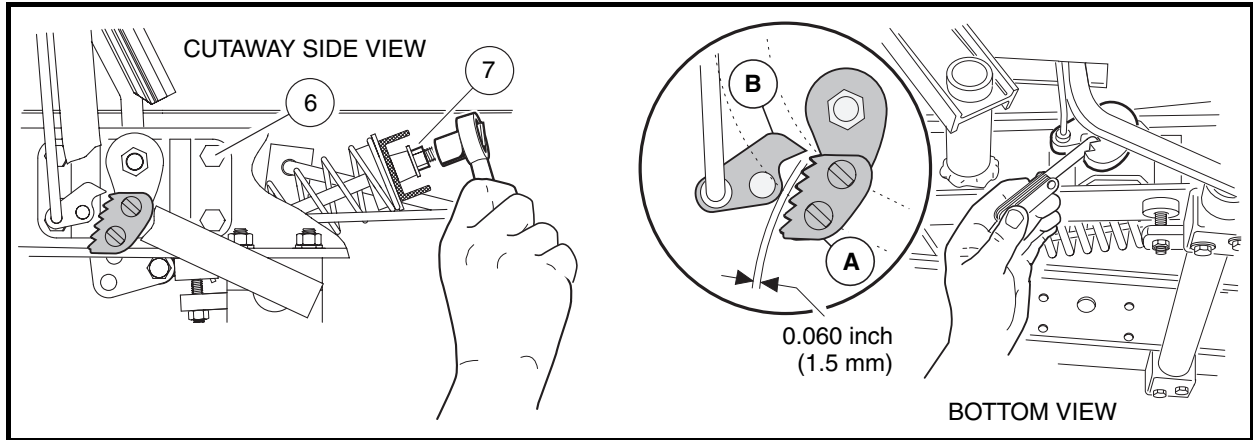

Figure 5-13 Park Brake Ratchet/Pawl Gap Adjustment
- 4.2. Adjust retaining nut (7) on spring support rod until there is a 0.060 inch (1.5 mm) gap between the pawl and the tips of the ratchet teeth. Use a feeler gauge to verify the gap (**Figure 5-13, Page 5-13**). The gap should be consistent through range of pawl movement. If the gap is not consistent, loosen the four bolts (6) securing the accelerator pivot rod supports and adjust the supports. If the gap becomes smaller as the park brake pedal is pressed, move the pivot rod supports slightly rearward until the gap is consistent. If the gap becomes larger as the park brake pedal is pressed, move the pivot rod supports slightly forward until gap is consistent. **See following NOTE.**